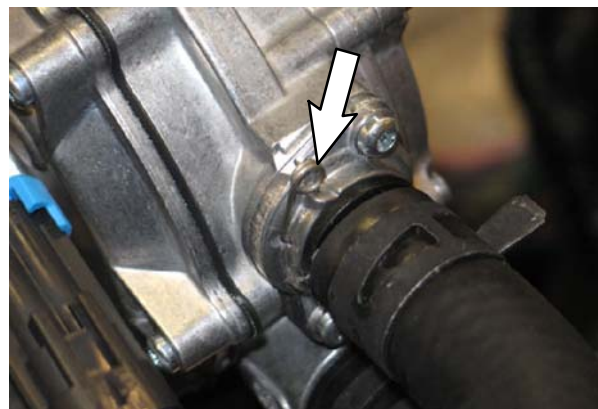

FIG. 17
- Reconnect the coolant hoses and LPG line to the vaporizer (1) and reinstall the clips to secure the hoses / fittings in the vaporizer. Remove the pinch clamps installed from the hoses. (Fig. 17)